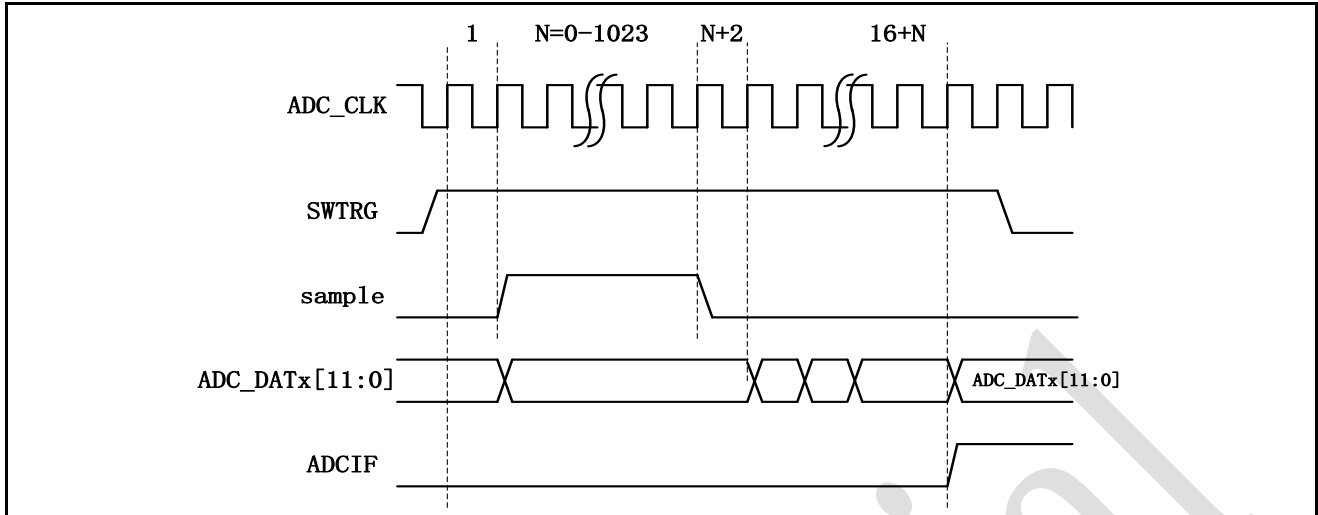

Figure 4-100 Single Mode Conversion Timing Diagram
5. Figure 4-100 shows an example timing diagram for Single mode.